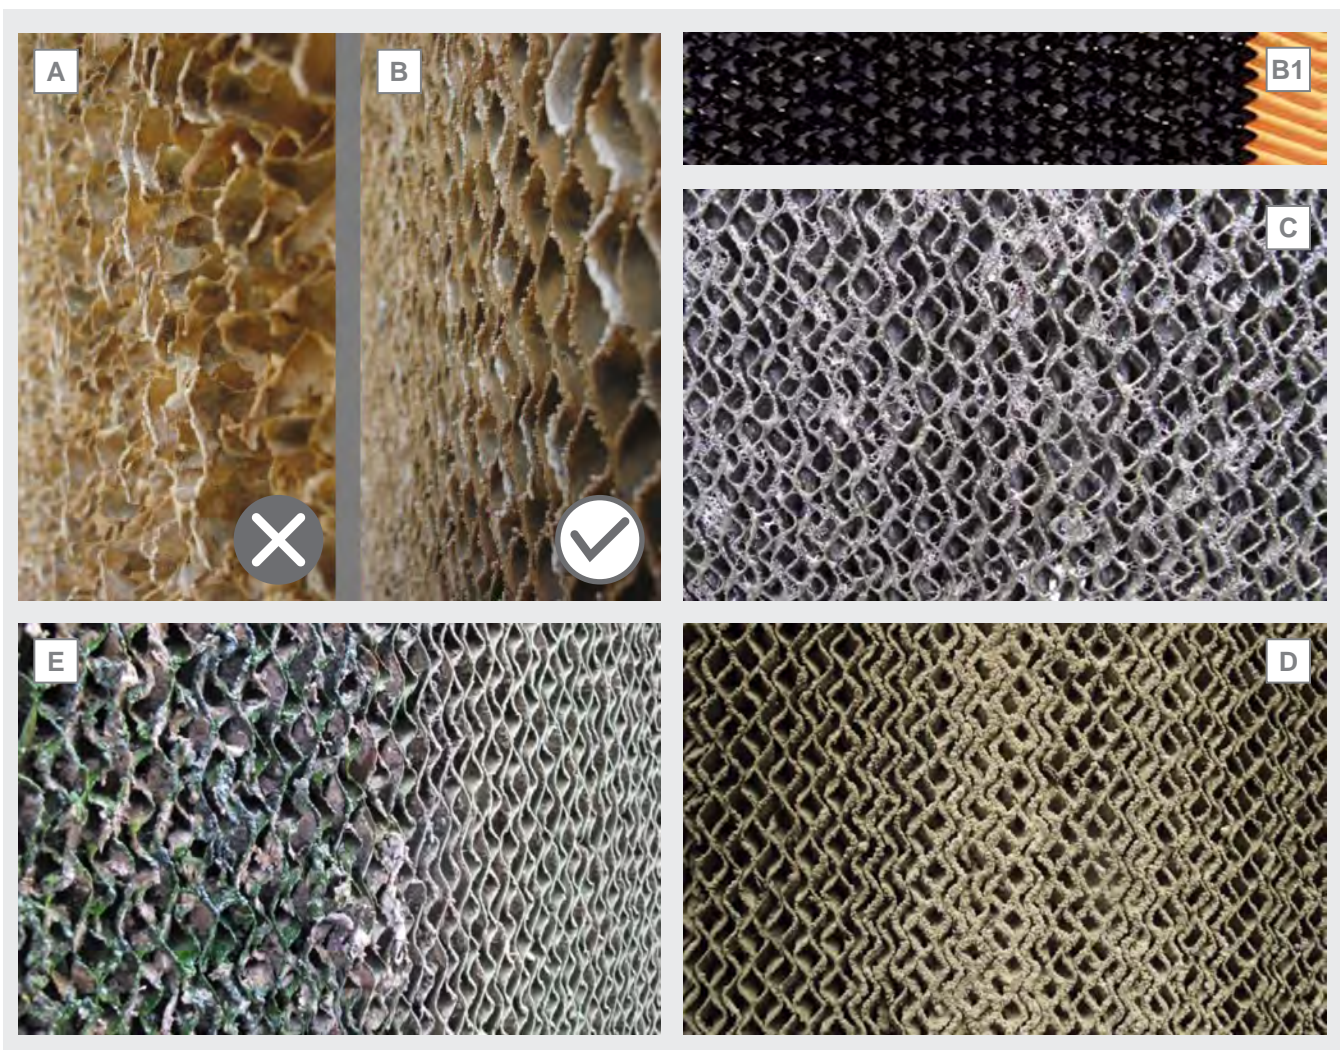

Figure 19
- 12.11.4 If worn, encrusted with lime scale or dirt of various kinds, the cardboard panels should be replaced so as not to affect the performance of the model. Contact Modine if necessary. Dispose of worn cardboards as per current regulations. See Figure 19 A as an example of a worn panel in need of replacement, Figure 19 B as an example of a panel in good condition. See Figure 19 C as an example of a panel in need of cleaning (routine cleaning). If required, the panels can be provided with a surface treatment that discourages the adhesion of biofilms and precipitated salts. The surface treatment can positively affect the maintenance time of the panels, their durability, and facilitate cleaning operations. See Figure 19 B1.
12.11.16 In the case of a panel encrusted with scale or silicate deposits (see Figure 19 D) or with algae or bacterial colony formations (see Figure 19 E), the following steps can be taken: rinse the panel with low-pressure water and scrub the surface with a soft-bristled brush. Rinse the panel with low-pressure water.